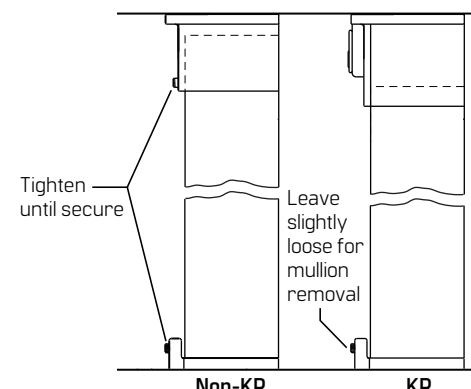

Figure 14 Set screws
- Tighten 5/16-18 UNC set screws on head cap and bottom fitting to secure mullion in place. See **Figure 14**.
- Install and adjust 5/16-18 UNC set screw for bottom fitting, leaving it loose enough for mullion to be removed without turning screw. See **Figure 14**.